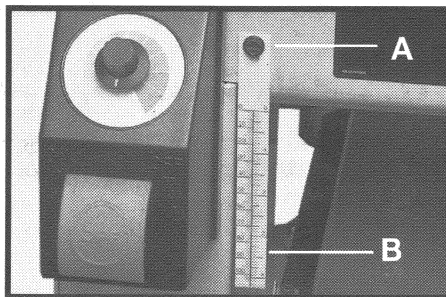

Fig. 8
2. Place thickness scale (B) Fig. 8 over the hole and replace screw and washer (A).